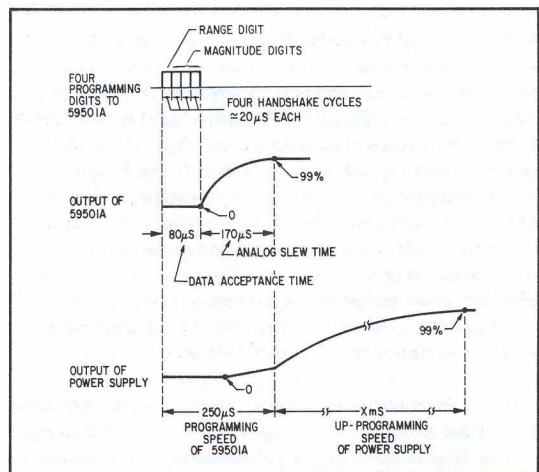

Figure 4-7. 59501A and Power Supply Response Times
**4-43 59501A/Power Supply Response Times.** Figure 4-7 illustrates the response time of a 59501A/power supply combination. The 250 $\mu$ sec response time of the 59501A is the sum of data acceptance time (80 $\mu$ sec) and the analog slew time (170 $\mu$ sec). The data acceptance time is the minimum time required for the 59501A to accept the four digits from the controller. The analog slew time starts when the fourth digit is accepted and is the time required for the 59501A to reach 99% of the programmed value.